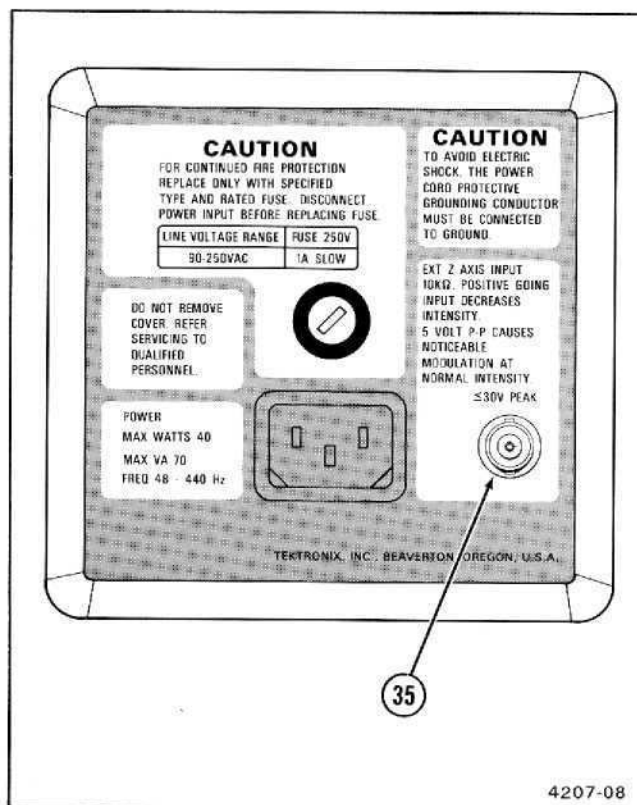

Figure 2-7. Rear-panel connector.
Refer to Figure 2-7 for location of item 35.
- ③⑤ **EXT Z-AXIS Connector**—Provides a means of connecting external signals to the Z-axis amplifier to intensity modulate the crt display. Applied signals do not affect display waveshape. Signals with fast rise times and fall times provide the most abrupt intensity change, and a 5 V p-p signal will produce noticeable modulation. The Z-axis signals must be time-related to the display to obtain a stable presentation on the crt.